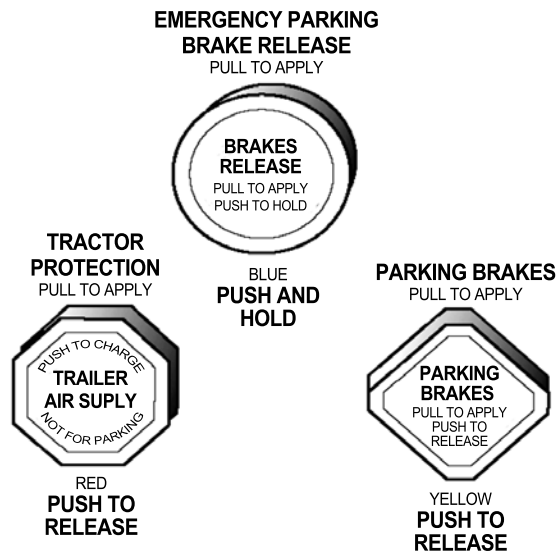

Figure 5.3
**Dual Parking Control Valves.** When main air pressure is lost, the spring brakes come on. Some vehicles, such as buses, have a separate air tank which can be used to release the spring brakes. This is so you can move the vehicle in an emergency. One of the valves is a push-pull type and is used to put on the spring brakes for parking. The other valve is spring loaded in the “out” position. When you push the control in, air from the separate air tank releases the spring brakes so you can move. When you release the button, the spring brakes come on again. There is only enough air in the separate tank to do this a few times. Therefore, plan carefully when moving. Otherwise, you may be stopped in a dangerous location when the separate air supply runs out. See Figure 5.3.